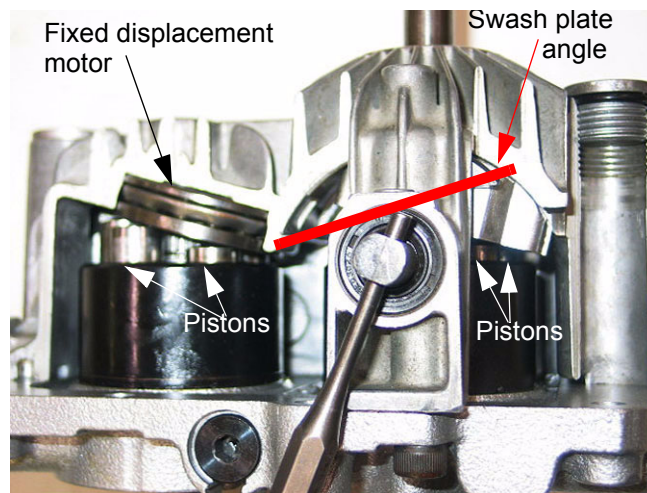

Figure 2.6
- 2.6. Tilting the swash plate the other way causes the variable displacement pump to drive fluid through the fixed displacement pump in the opposite direction. See Figure 2.6.